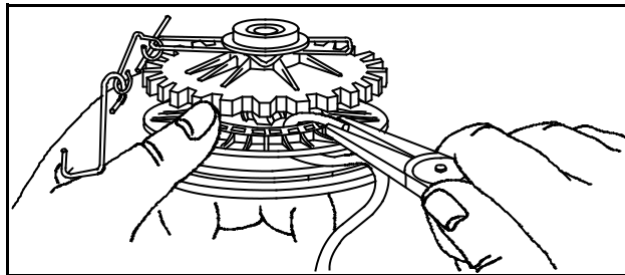

Fig. 622 – REMOVING ROPE FROM PULLEY
8. Use the rope inserter tool and/or pliers to remove rope from pulley, Figs. 622 and 623.